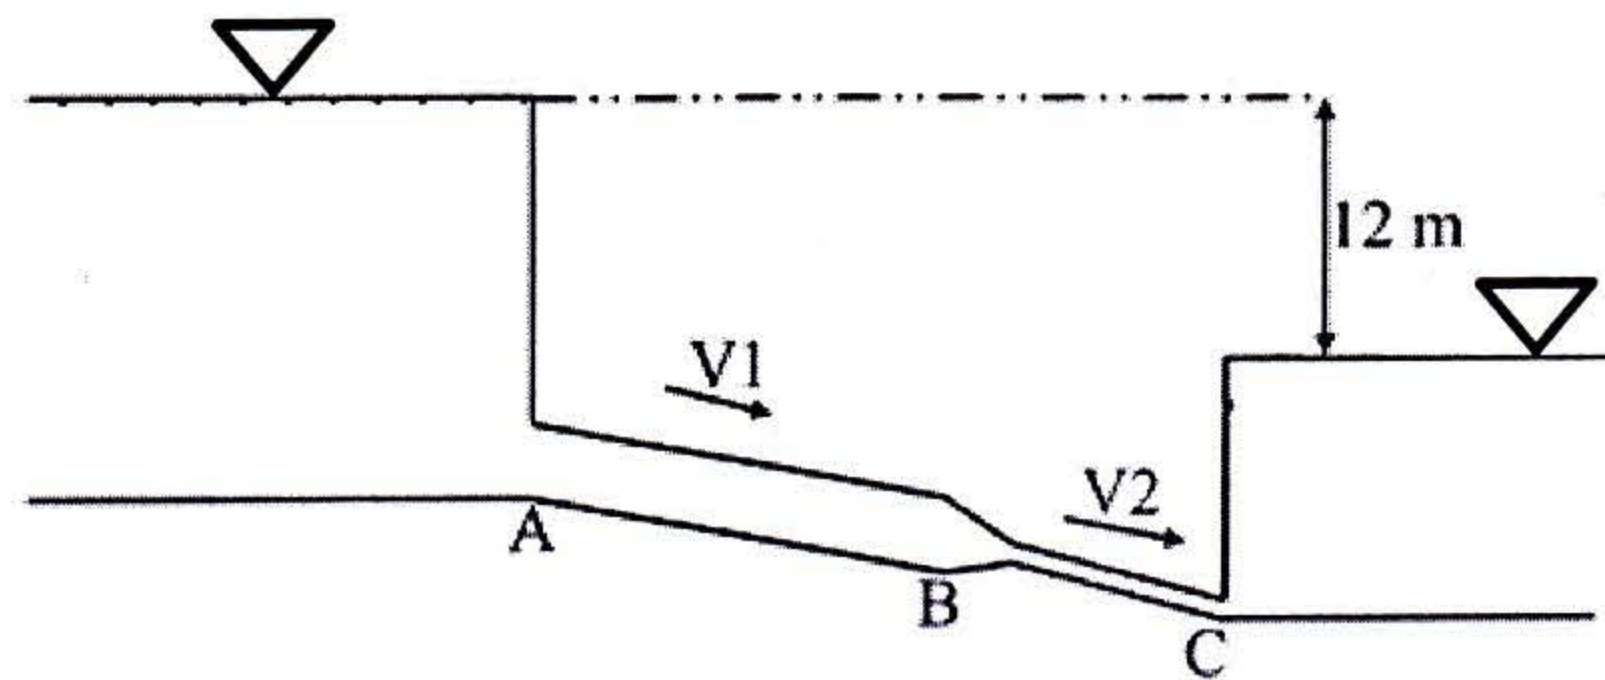

Figure: 06
- (c) Two reservoirs with a difference in water surface elevation of 12 m are connected by a pipeline ABC which consists of two pipes AB and BC joined in series shown in Fig:06. Pipe AB is 30 cm in diameter and 45 m long. Pipe BC is 15 cm in diameter and 35m long. Find out the flow through the pipeline ABC. Neglect all the minor losses. Absolute roughness for the pipe AB is (e=2 mm) and absolute roughness for the pipe BC is (e=0.3mm). What difference in the reservoir elevation is necessary to have a discharge of 50 L/s in the pipeline? [Kinematic viscosity of water is given=1*10⁻⁶ m²/s at 20°C] [10+3]